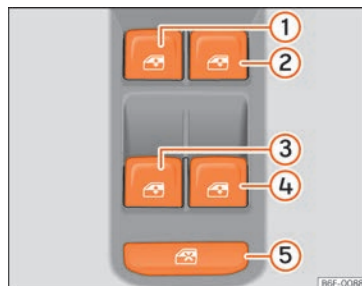

Fig. 92 Detail of the driver's door: window controls.
The safety control » **Fig. 92** ⑤ on the driver door can be used to disable the electric window buttons on the rear doors.